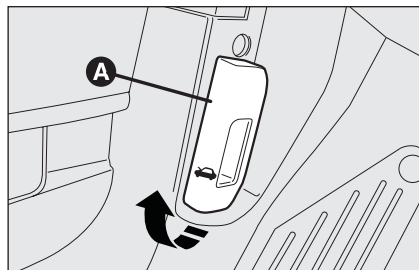

fig. 96
- ☐ pull lever **A**-fig. 96 in the direction of the arrow;